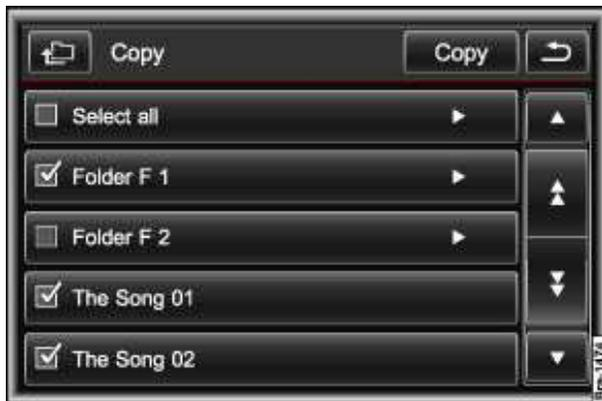

Fig. 152 Select audio files to be imported.
- The **Import** menu is then opened ⇒ fig. 152.